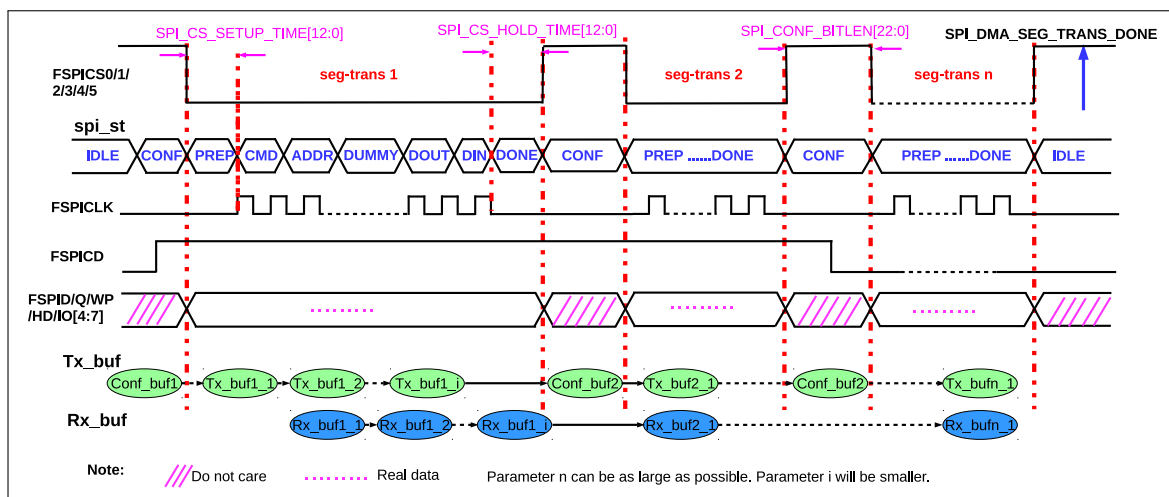
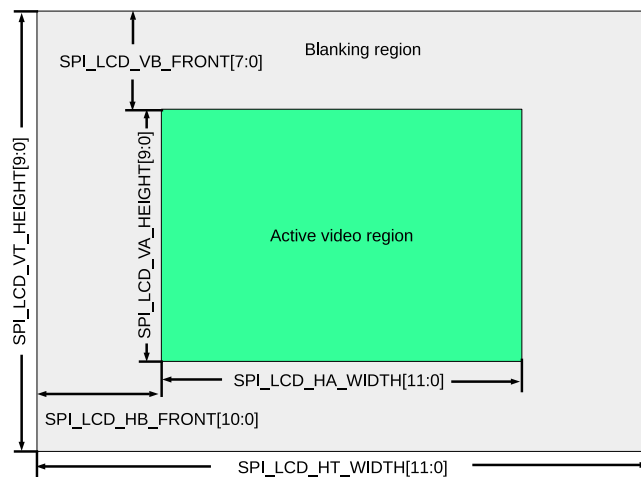
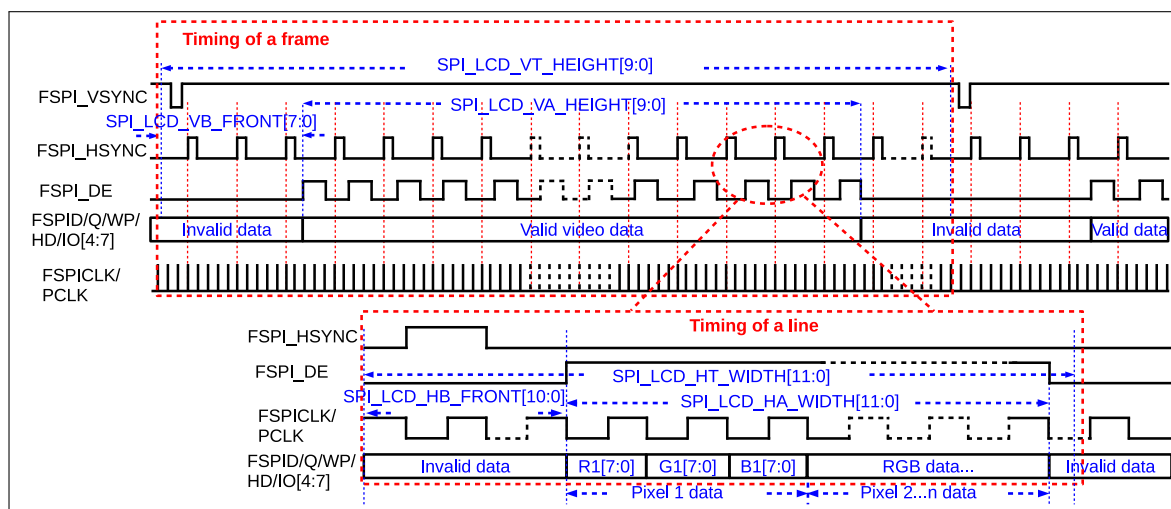

Figure 24.4-7. Segmented-Configure-Transfer in DMA Controlled Master Mode
Figure 24.4-8. Video Frame Structure in Parallel RGB 8-bit LCD Mode
Figure 24.4-9. Timing Sequence in Parallel RGB 8-bit LCD Mode
An SPI transfer, controlled by the registers of GP-SPI2, needs to be configured and triggered by the CPU. To reduce CPU cost and to increase the efficiency of GP-SPI2, DMA segmented-configure-transfer function is provided in DMA-controlled master mode. (Note that CPU-controlled master mode does not support segmented-configure-transfer function.) Segmented-configure-transfer enables GP-SPI2 to do as many times of transfer as configured, with only one triggering by CPU. Figure 24.4-7 shows how the segmented-configure-transfer function works in DMA-controlled master mode.
As shown in Figure 24.4-7, GP-SPI2 registers can be reconfigured by GP-SPI2 hardware according to the content in a `Conf_bufi` during `CONF` state, before one single segmented-configure-transfer, `SCTi`, begins.
For example, as shown in Figure 24.4-7, `SCTi` can be configured to DMA-controlled full-duplex communication; `SCTj` can be configured to DMA-controlled half-duplex MISO mode; and `SCTk` can be configured to DMA-controlled half-duplex MOSI mode. *i*, *j*, and *k* are integer variables, which can be any SCT number.
Figure 24.4-8 shows the video frame structure of a parallel 8-bit RGB mode LCD.
It can be seen from Figure 24.4-7, Figure 24.4-8, and Figure 24.4-9 that a good way for GP-SPI2 to output parallel 8-bit RGB frame data is as follows:
- Data is output in each frame line in a segmented-configure-transfer. One valid video line is transferred in each single transfer (i.e. SCT*i* in Figure 24.4-7) of segmented-configure-transfer. There are SPI_LCD_VA_HEIGHT[9:0] active video region lines in a frame, so that a frame data is sent in SPI_LCD_VA_HEIGHT[9:0] times of SCT*i*.
GP-SPI2 can output the frame data automatically as shown in Figure 24.4-8 and Figure 24.4-9, which significantly lowers the CPU time required to control the SPI transfer. The configuration flow is as follows:
2. Configure frame control registers, as shown in Figure 24.4-8 and Figure 24.4-9, in accordance with the application. For example, in the application, if n active video lines are needed, then set `SPI_LCD_VA_HEIGHT[9:0]` to n .